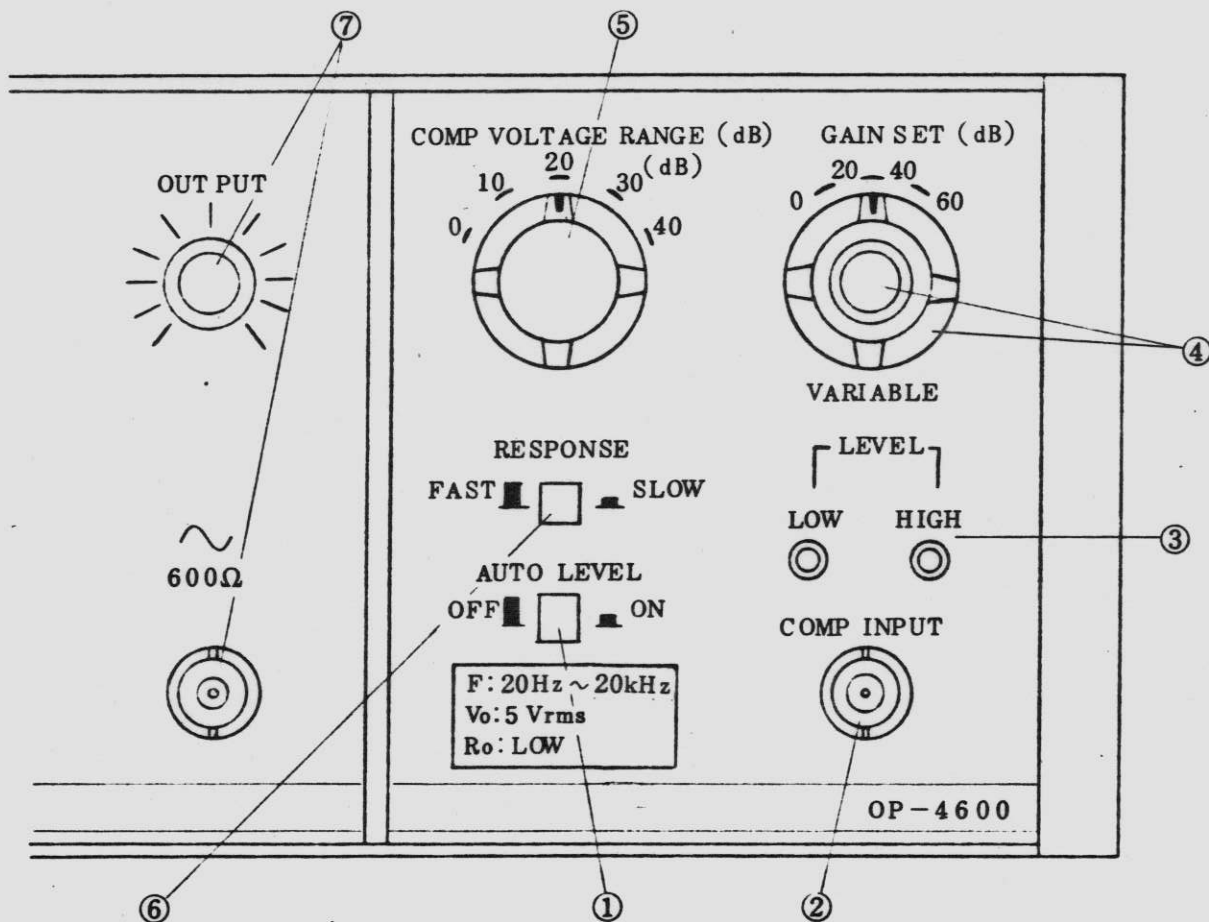

Figure 3-1. Front panel
3.1 Explanation of Front Panel Items (See Figure 3-1.)
- ① AUTO LEVEL: Main switch for Auto Compressor operation which starts operating when this switch is depressed and locked. The output terminal of the Main Unit (Model 4600 Sweep Generator) is used in common for the Auto Compressor also, with the output resistance changed to a low output resistance from the 600-ohm resistance when in the 4600 operation. (Before switching to the Auto Compressor operation, reduce the output to the minimum.)
- ② COMP INPUT: This compression signal input terminal accepts a signal of frequency 20 Hz to 20 kHz and level -80 dBv to +10 dBv.
- ③ LEVEL: These HIGH and LOW lights (LED's) indicate whether the signal applied to the COMP INPUT terminal ② is within the acceptable level or not. The LOW light turns on if the input signal level is too low or the HIGH light turns on if it is too high. When the input signal level is normal, both lights are off. (Note, however, that both lights may turn on when the input signal frequency is low.)
- ④ GAIN SET VARIABLE: Sets a gain for the signal applied to the COMP INPUT terminal ②. The outer dial selects one of the three ranges covering 0 dB to 60 dB. The inner knob is for continuously-variable adjustment. These dial and knob must be so set that both LEVEL lights ③ are off. The relationships between GAIN SET values and COMP VOLTAGE RANGE values are shown in the following table: